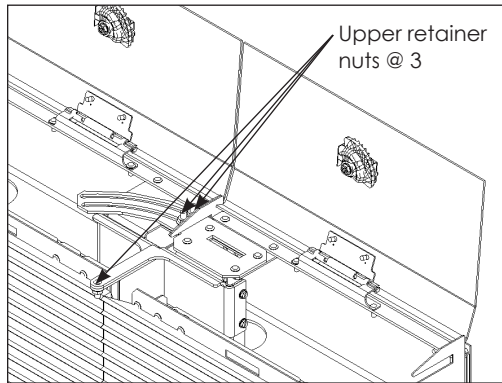
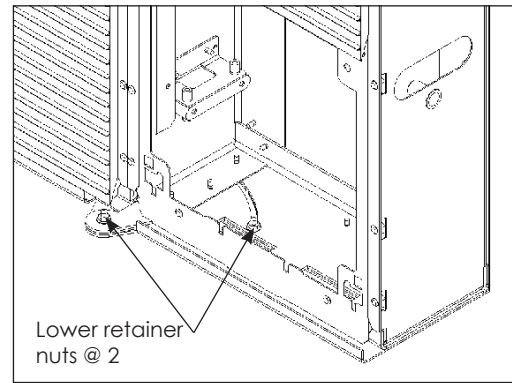

Figure 23: Loosen Upper Retainer Hardware
Figure 24: Loosen Lower Retainer Hardware
2. Loosen the retainer nuts from the upper and lower support brackets and release the latches holding the wing to the shell. Refer to **Figure 23** and **Figure 24**. The wing section is now free to rotate.